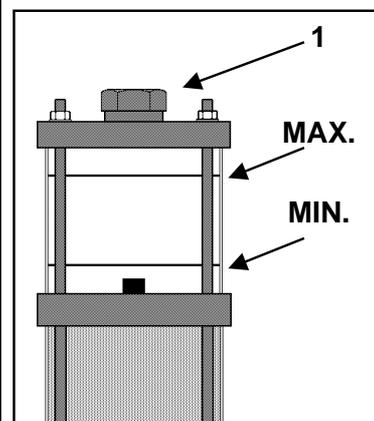

Fig. 7.6/1:
- Check the level of the cooling water of the internal cooling water circuit at the ion exchange cartridge (**Fig. 7.6/1**).
- The cooling water level in the ion exchange cartridge must be between MAX. and MIN. (**Fig. 7.6/1**).
The cooling water level in the ion exchange cartridge must be between MAX. and MIN. (**Fig. 7.6/1**).